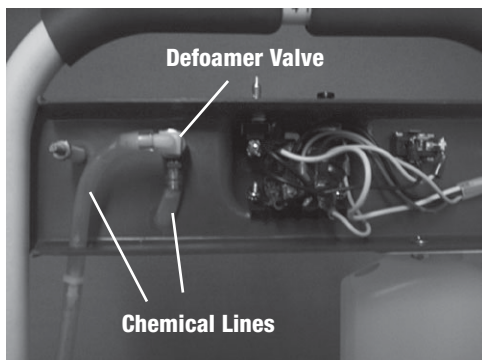

Figure 16
2. Remove back plate of control panel (fig. 16).
3. Wiggle both defoamer chemical lines off their nylon fittings (fig. 16).
2. Remove backplate of control panel and remove the bad switch.(fig. 16).